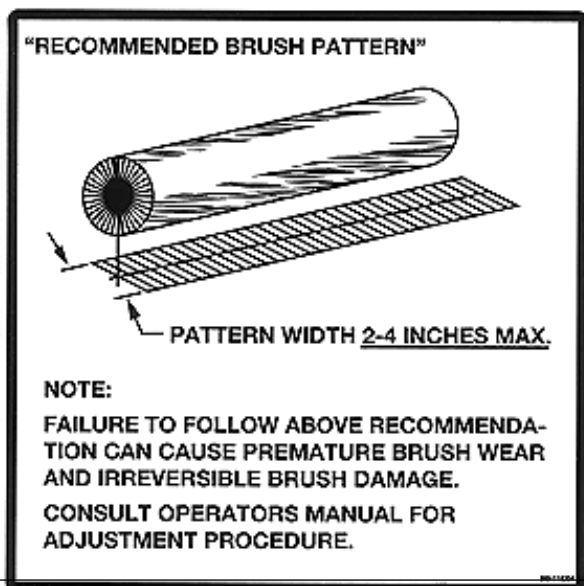

Figure 4
NOTE: There must be a minimum of a 1" gap between the ground and the hopper cutting edge. See Figure 4.
2. With the unit on a flat level surface, run the unit for about 30 seconds in the down position while stationary. Stop the broom and back the unit away. The 'cleaned' (contact) patch should be 2"-4" wide, front to rear, for the entire length of the broom. See Figure 4.